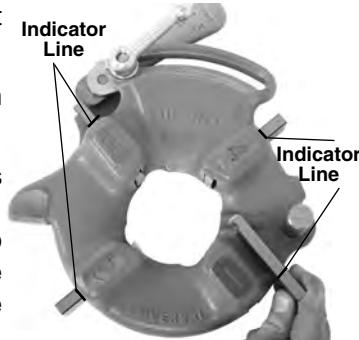

Figure 5 – Inserting Dies
4. Lift tongue of washer out of slot in size bar. Move washer to end of slot (Figure 5).
6. Insert appropriate dies into the die head, numbered edge up until the indicator line is flush with the edge of the die head (see Figure 5). Numbers